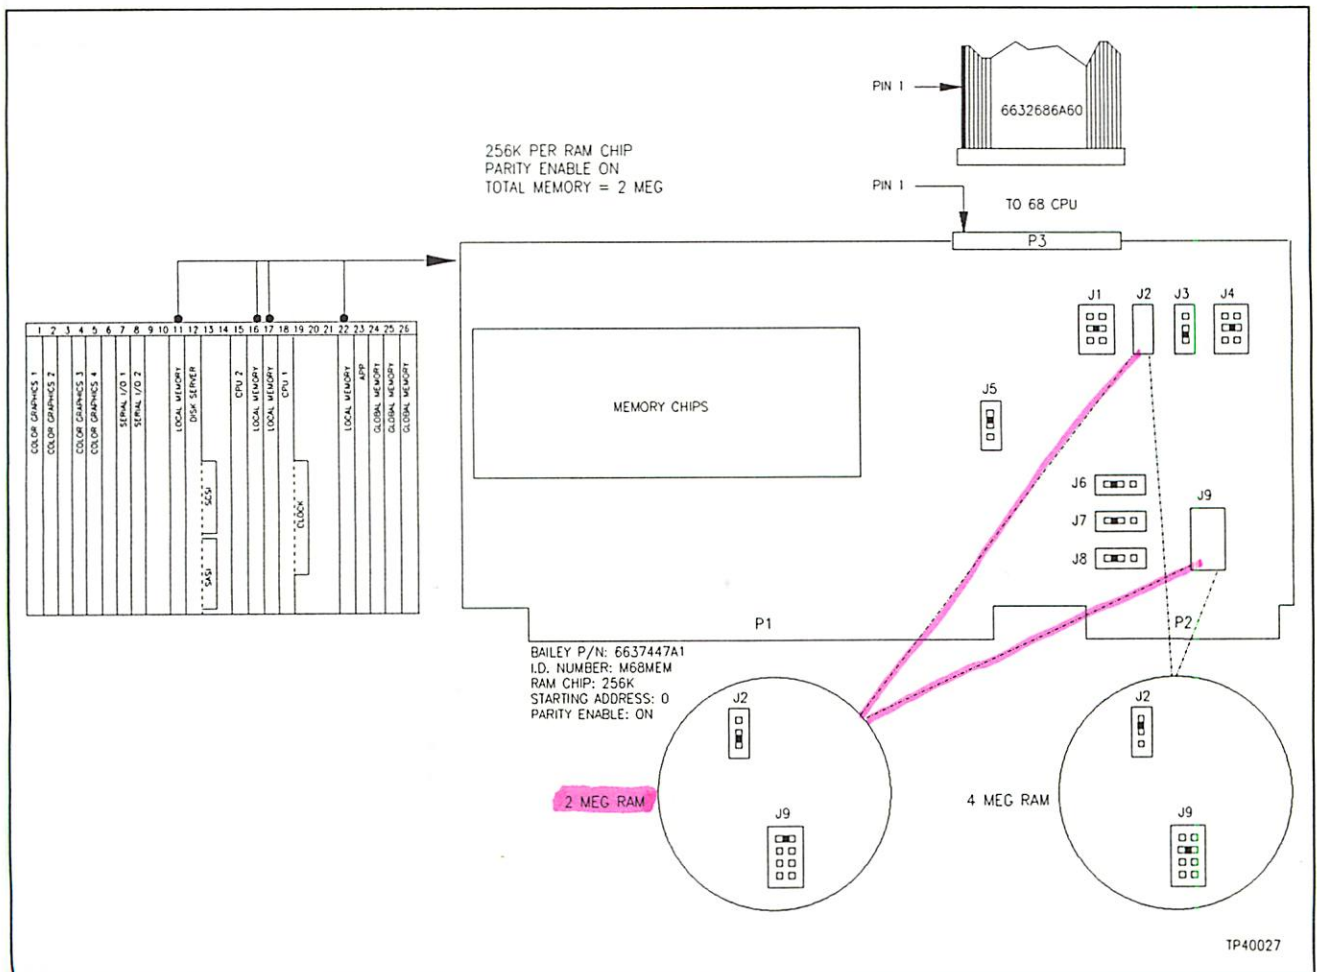

Figure 3-8. Local Memory Card
Each MCS CPU card (including the disk server card) requires two Megabytes of local memory. A local memory card is connected to each CPU card via a ribbon cable. This card contains two Megabytes of total on-board RAM. See Figure 3-8 when setting jumpers J1 through J9 on these cards. These jumper settings apply to the memory cards for all CPU cards.
**NOTE:** Some users may have memory cards containing four Megabytes of RAM. Jumper settings differ on these cards (Figure 3-8). This card is the same card used for the two Megabytes RAM card, but with all RAM chip sockets filled.